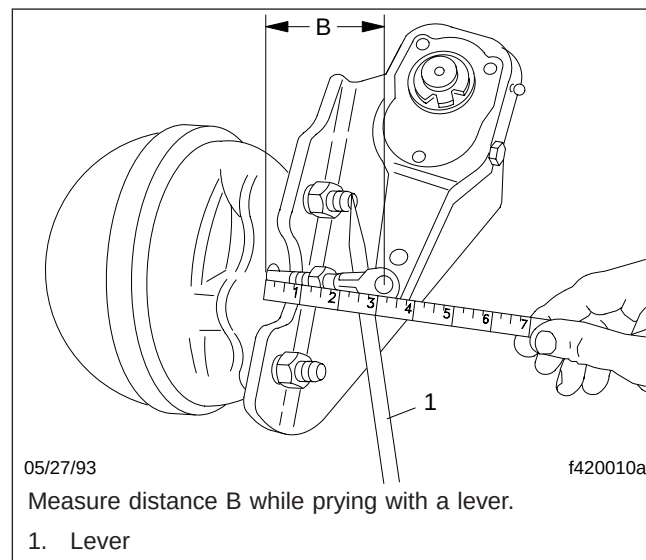

Fig. 2
- 2.2 Using a lever as shown in Fig. 2, move the slack adjuster piston rod until the brake shoes contact the drum. Measure the distance from the face of the brake chamber to the centerline of the clevis pin (Fig. 2, Ref. B). Record the exact distance as measurement B.